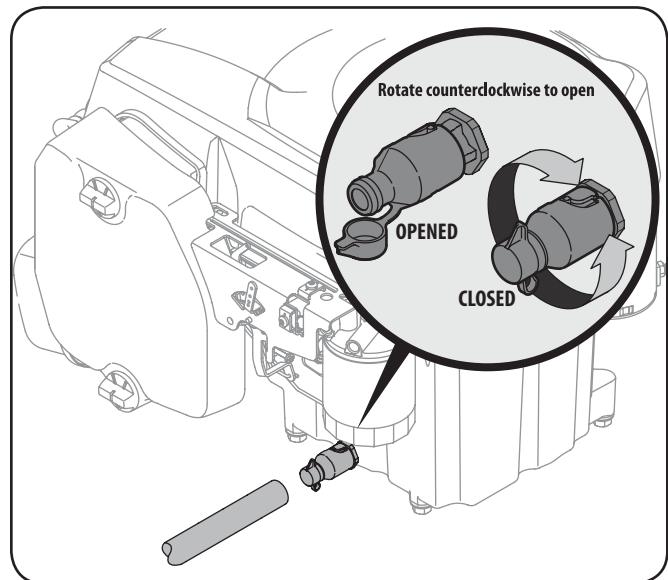

Figure 6-2
3. Pop open the protective cap on the end of the oil drain valve to expose the drain port. See inset in Fig 6-2.
6. Push in on the oil drain valve and rotate counter-clockwise to drain the oil. Refer back to Figure 6-2.